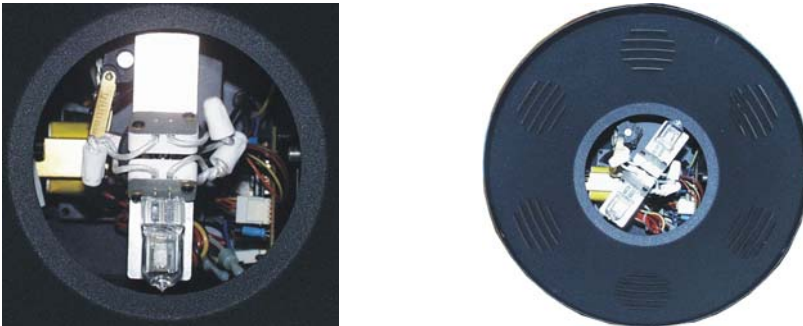

Fig. 3
2. Gently remove the housing and take out the lamp sockets. Read lamp instructions. Do not touch the lamp bulb glass. (See Figure 3.). Oil on hands shortens the lamp life. (If you touch the bulb glass, wipe off the glass with a clean, lint-free towel and rubbing alcohol.).